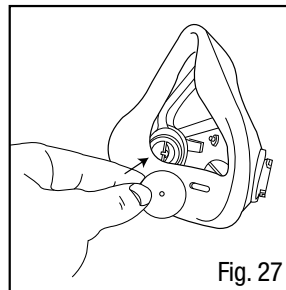

Fig. 27
2. Replace valve(s) by pressing the hole of the valve over the center post on the valve seat (Fig. 27). Be certain valve(s) is fully engaged through valve post(s) and lays flat.